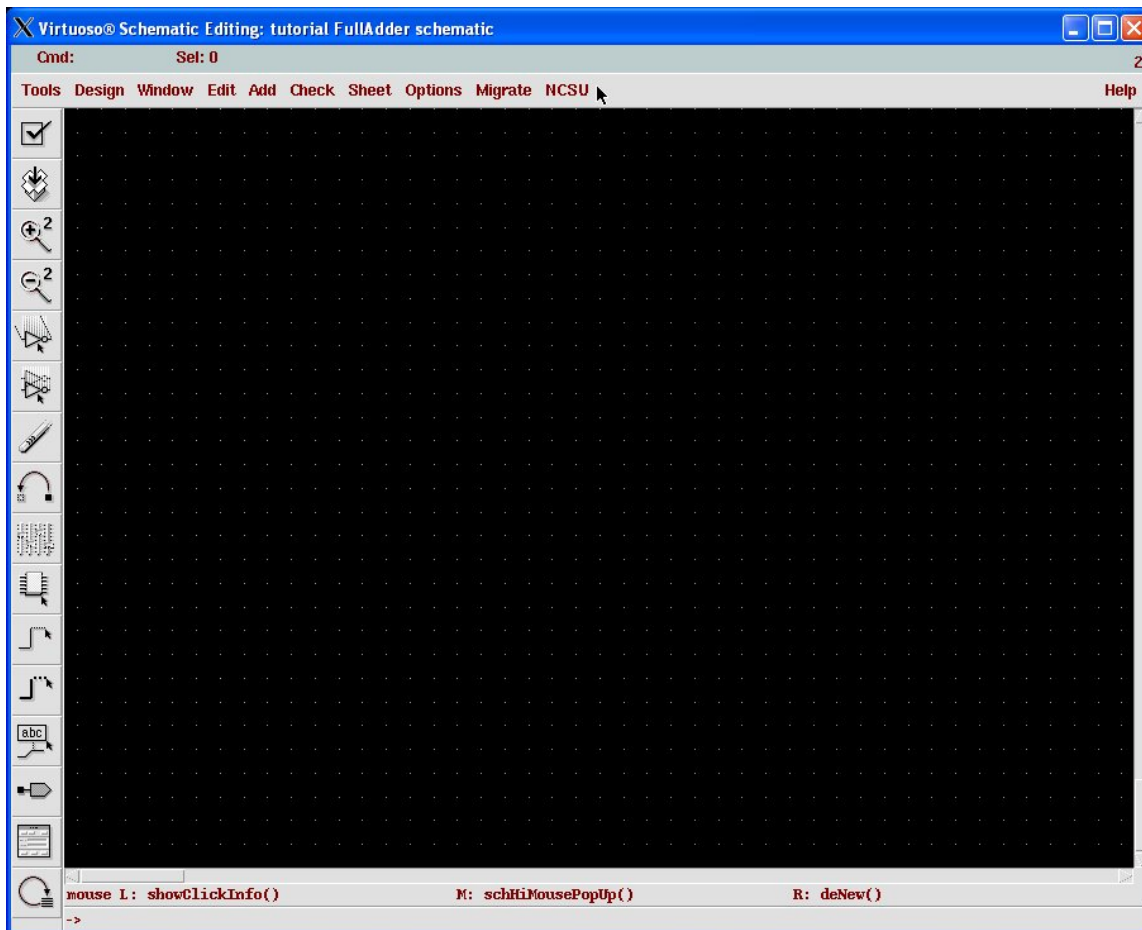

Figure 3.3: Blank Composer window - note command widgets on left of screen
3. A blank **Composer** schematic editing window appears which looks like that in Figure 3.3.